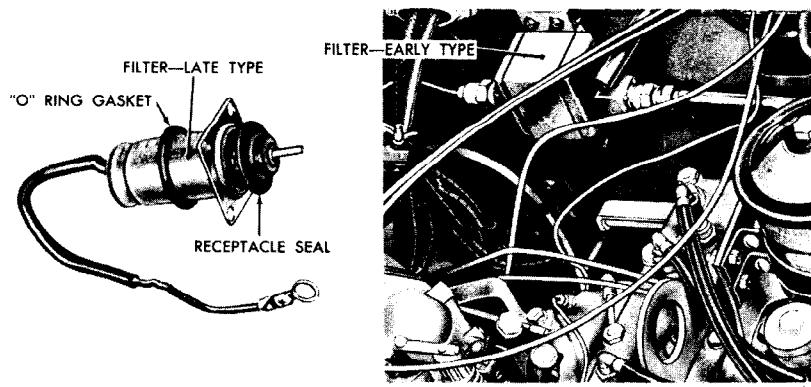

Figure 99. Ignition filters.
a. General. Two types of ignition filters (fig. 99) have been used in the vehicles (par. 6(12)). The service information contained herein includes the removal and installation of the filter which is assembled into the distributor. For replacement of the filter located on the cowl, refer to paragraph 277.
- (2) Remove the ignition filter, if vehicle is so equipped. Remove the receptacle seal and the O-ring gasket from the filter (fig. 99).